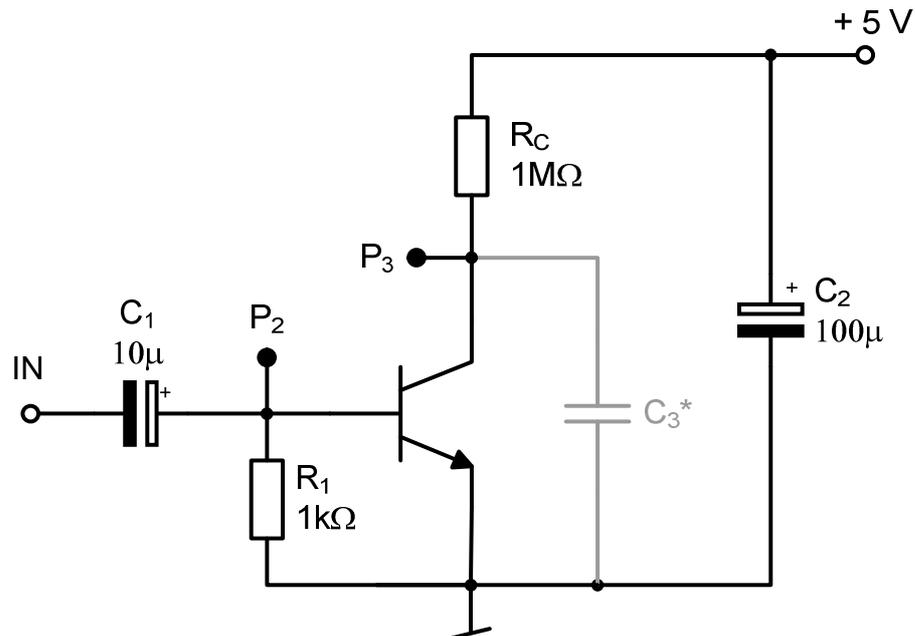

Fig. 3. A circuit used for determination of the base-collector junction capacitance ($C_{b'c}$).
- Assemble the system to determine the output conductance of the bipolar transistor according to Fig. 3. Do not connect the generator to the input of the circuit.
In the circuit from Fig. 3, one can measure the junction capacitance of a reverse biased base-collector junction ($C_{b'c}$) of the bipolar transistor. Transistor works in the cut-off